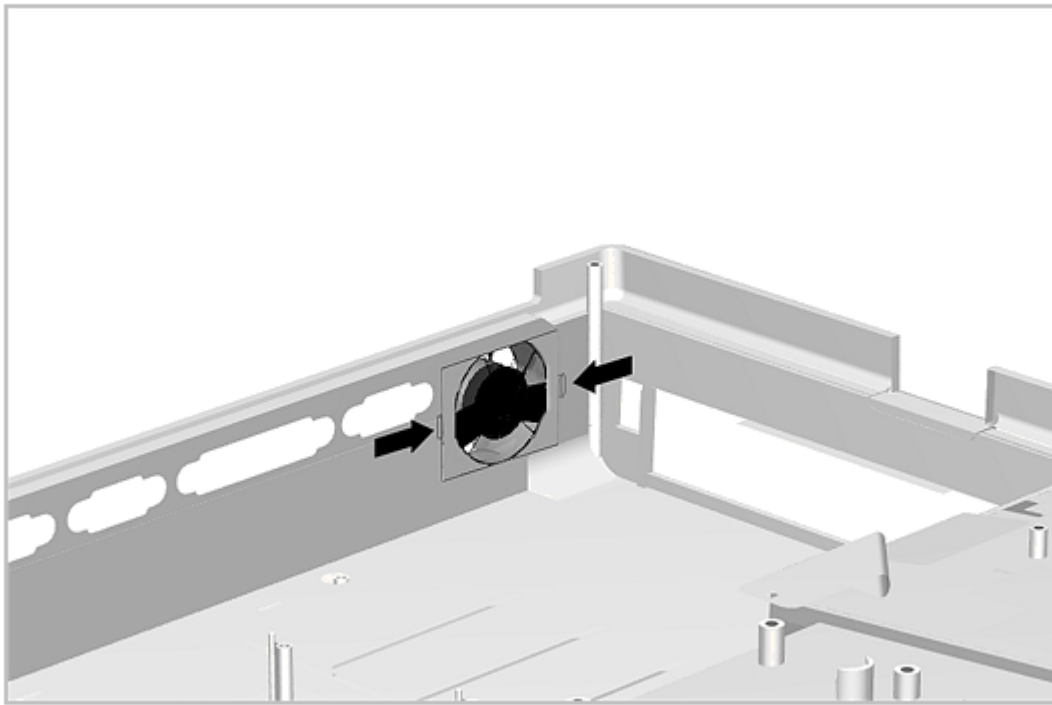

Figure 7-21. Removing the Auxiliary Fan
7. To remove the auxiliary fan, release the fan mounting clips and remove the fan from the bottom cover. (Figure 7-21)